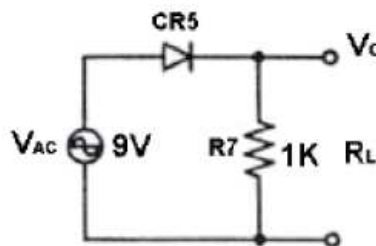
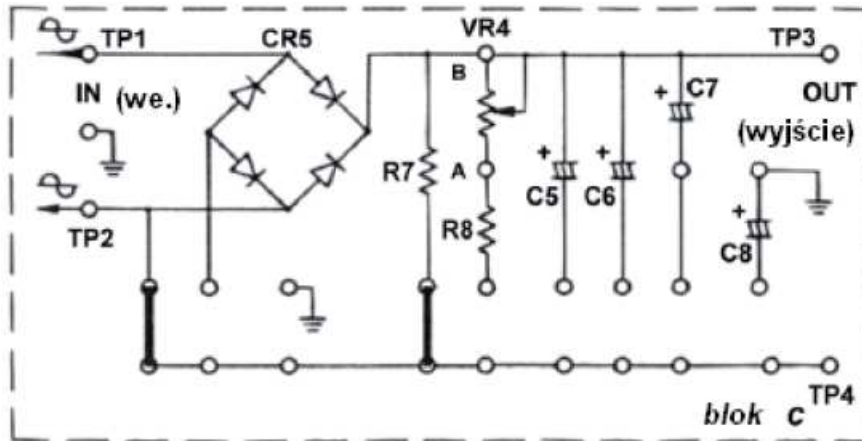

Fig. 1: Half-wave rectifier without capacitor [1]
Fig. 2: Electrical assembly schematic (KL-25002 part C) - Half-wave rectifier without capacitor [1]
1. Make the connections according to the electrical diagram (Fig. 1) and the assembly schematic (Fig. 2).